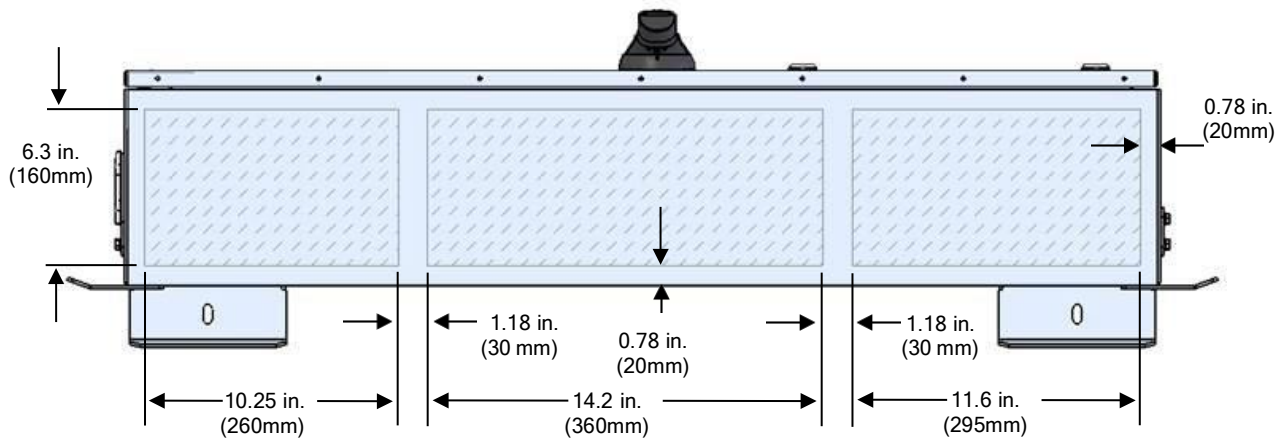

Figure 4.3 Bottom of the ACC1500-500 AC Combiner Showing Areas Available (shaded) for Conduit
- ✓ Note the target area for conduit connections for the combined AC Output Circuit, on the bottom face of the ACC1500-500 AC Combiner, as shown in **Figure 4.3**. Only the shaded areas indicated should be used.